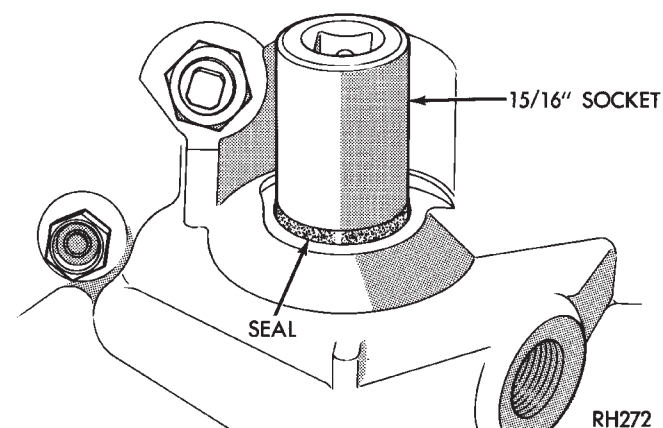

Fig. 159 Installing Manual Lever Shaft Seal
(54) Install magnet in oil pan. Magnet goes on small protrusion at corner of pan.
(55) Position new oil pan gasket on case and install oil pan. Tighten pan bolts to 17 N·m (13 ft. lbs.).
(56) Install new valve body manual shaft seal in case (Fig. 159). Lubricate seal lip and manual shaft with transmission fluid. Start seal over shaft and into case. Seat seal with 15/16 inch, deep well socket.